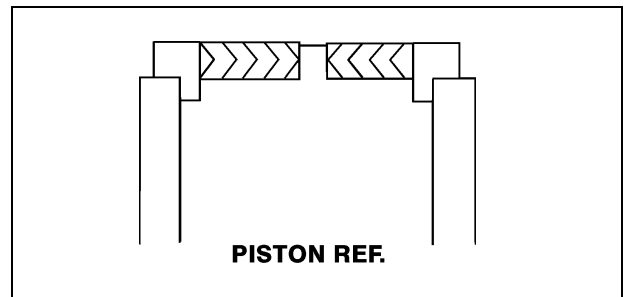

Figure 5-19. Poly-Pak Piston Seal Installation
16. Place new guide locks and seals in the applicable outside diameter grooves of the cylinder piston. (See Figure 5-19., Poly-Pak Piston Seal Installation)